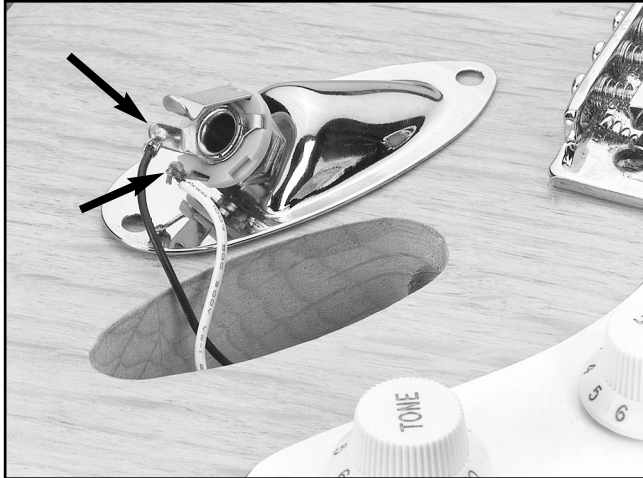

Figure 26. Soldered audio wire.
1. Solder the wires shown in **Figure 26** to the tabs on the audio jack.